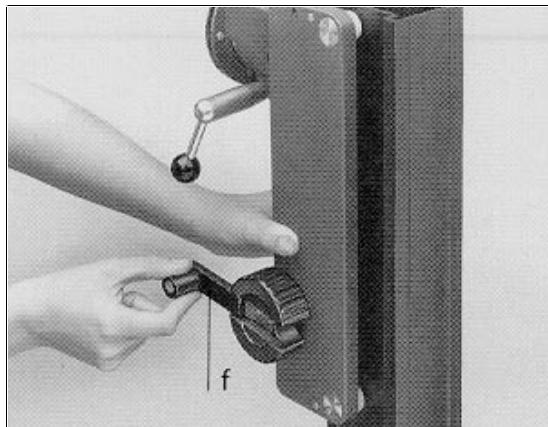

Figure 2-7. Vertical Carriage Height Adjustment Lever
c. Lower the carriage further, until the two white rollers at the top rest against the top of the column (figure 2-7). Slowly rotate the height adjustment lever (f) in a clockwise direction and, as the carriage slowly goes down, make sure the white rollers feed in behind the rails.